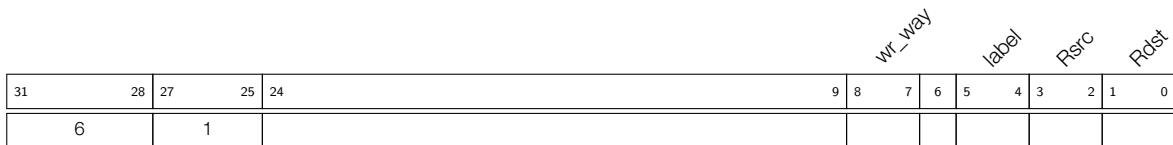

Figure 1-12. Instruction Type - Data Storage in Automatic Storage Mode (ST-AUTO-DATA)
**Operand Description** - See Figure 1-12